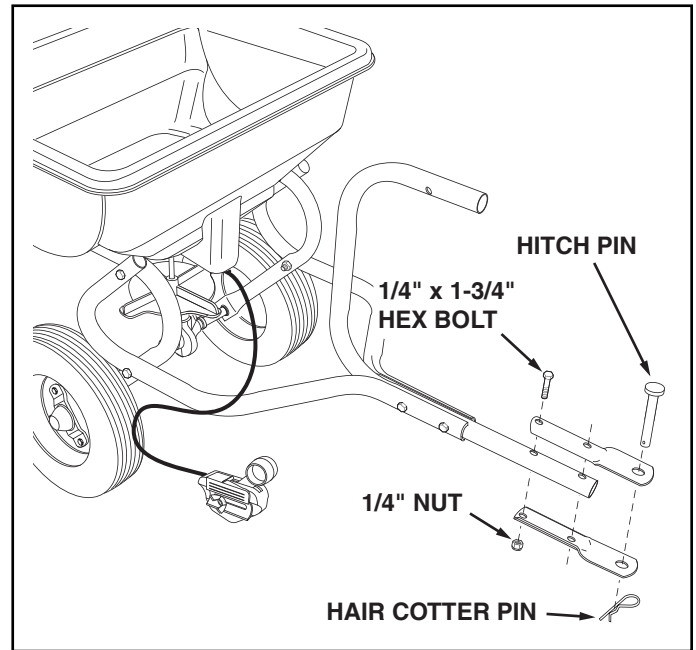

FIGURE 3
4. Assemble the Hitch Brackets to the Hitch Control Tube using two 1/4" x 1-3/4" hex bolts and 1/4" nuts. **Tighten.** See figure 3.
5. Assemble the hitch pin through the hitch brackets and secure with the 1/8" hair cotter pin. See figure 3.